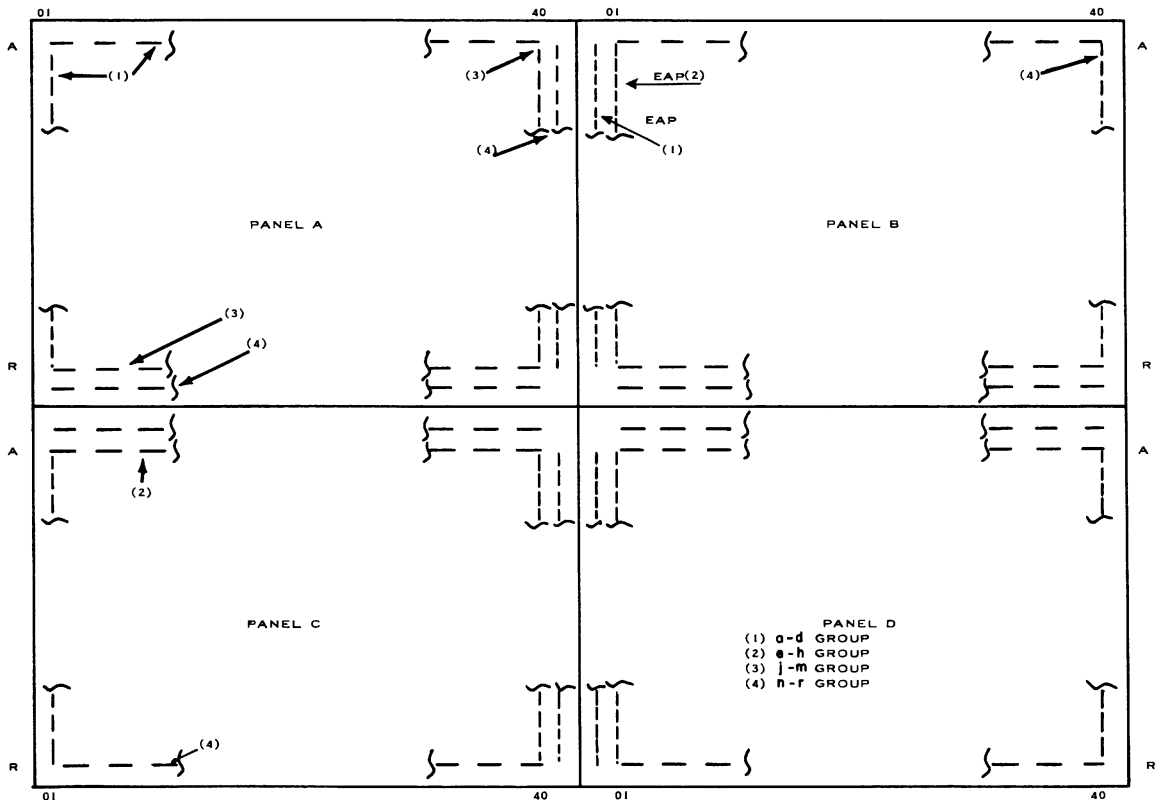

FIGURE C2. EDGE CONNECTOR LAYOUT
When signal or service wiring enters or leaves a panel, it is routed through an edge connector (EC), as shown in Figures C2 and C3. Because connectors are pluggable, circuit isolation is convenient.
The EC's laid out horizontally on the top, middle, or bottom row are located by the numerical indexing on each panel (01, 02, and so on) as in Figure C2. The alphabetic indexing (A-Z) locates the vertical columns on the left or right side of the panel. The alphabetic index is A-R or A-Z, depending on the number of pluggable units (two or three) mounted on the panel. Individual terminals are labeled a-r (omitting i and o) left to right and top to bottom. Therefore, EC's in the extreme left column are the a-d group; the adjacent column is the e-h group; the two columns on the right are the j-m group and the n-r group. The same procedure follows for the horizontal rows (top to bottom). If only one column is used on the left, it is the a-d group. If only one column is used on the right it is the n-r group. Therefore, if a row or column of EC's is omitted, the indicated grouping is not used.